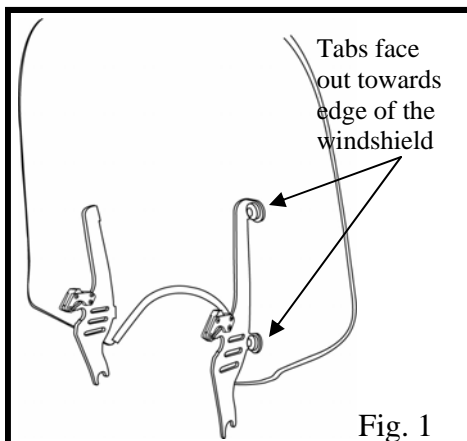

Fig. 1
2. Install the windshield mounting plates onto the windshield, using the bolts that are pre-assembled on the mounting plates. The Santoprene grommets should be inserted through the holes in the windshield so that the flat round part of the grommet lies flat on each side of the plastic. *Tabs point out towards the edge of the windshield.* (see fig. 1)